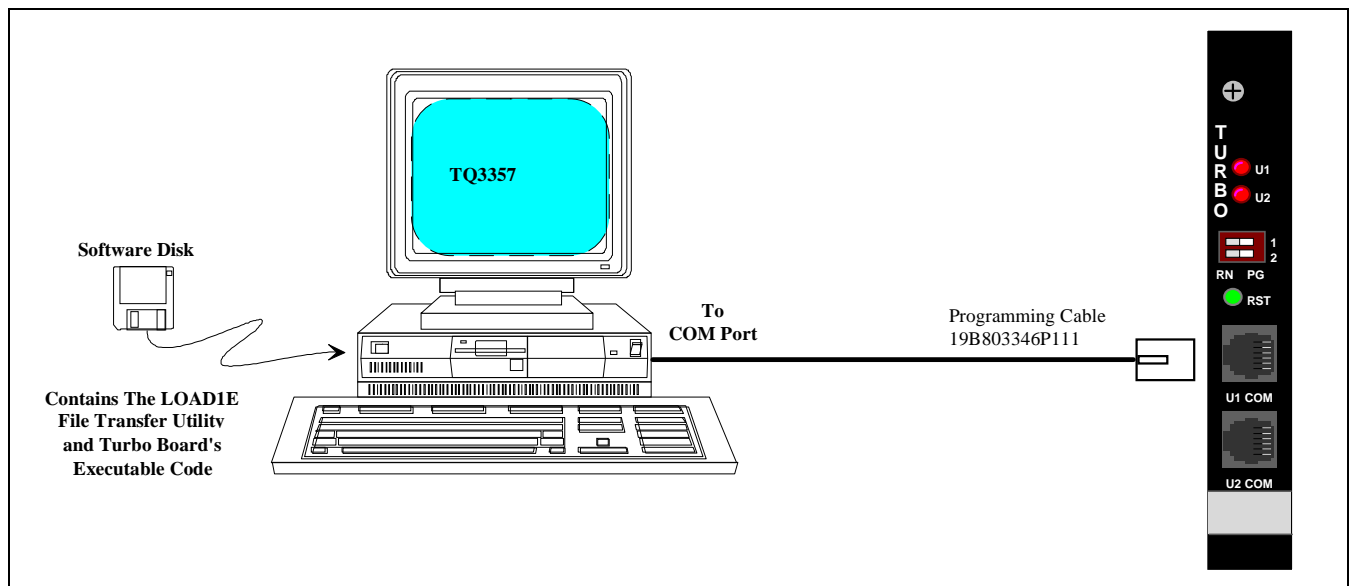

Figure 5 - Turbo Card Programming
2. Connect the Programming Cable, 19B804346P111, from the PC's serial port connector to the Turbo card input port connector **U1 COM** (see Figure 5).